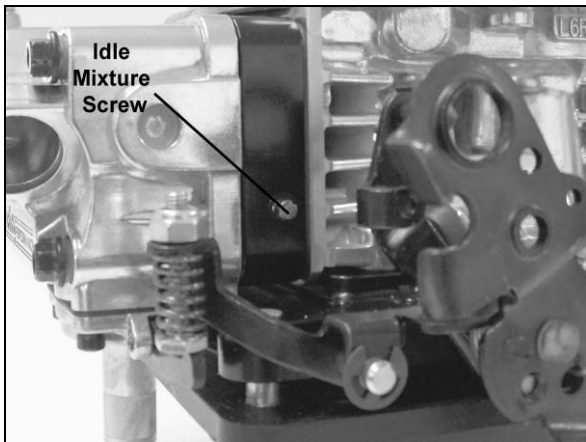

Figure 10
2. The Ultra Double Pumper™ is a 4 corner idle carburetor which means there are 4 idle mixture screws. Two in the primary metering block and two on the secondary metering block. Adjust each idle mixture screw (**Figures 10 & 11**) 1/8 turn at a time, alternating between all 4 screws. Turn them equally, until you achieve the highest possible vacuum reading without adjusting the curb idle speed screw. Turn screws in to lean the mixture. Turn them out to richen the mixture.